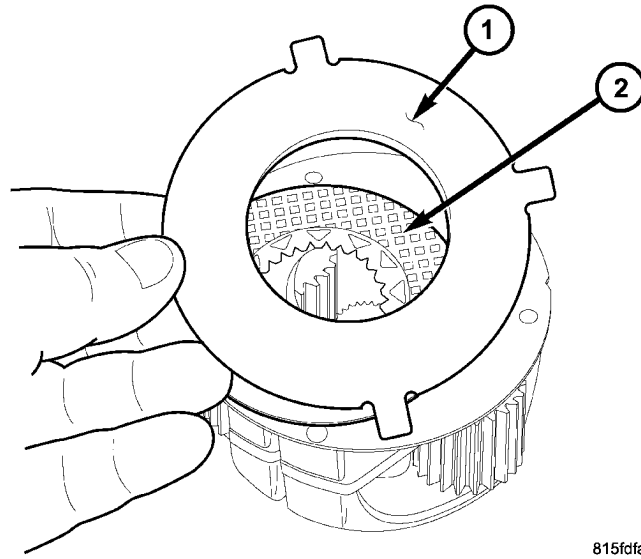

Fig. 6 REMOVE FRICTION DISC APPLY PLATE
10. Remove the friction disc apply plate from the friction disc (Fig. 6).